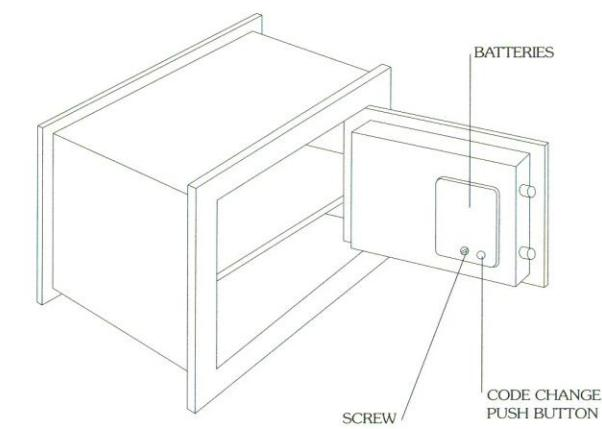

FIG. 2
The safe contains four batteries required to run its electronic features, which should be correctly positioned in the battery holder, in accordance with their polarity. To do this, open the door and remove the battery holder cover by loosening its attachment screw (see fig. 2).
In order to programme a new access code the door must be open (see 2.1 and fig. 2). Then take the following steps:
2. Before 8 seconds have passed, press the code changing pushbutton located on the interior surface of the door (see fig. 2). The tune «Where are the keys» will be heard and then the sound inviting the user to key in a code.
The batteries are inside the door (see fig. 2).